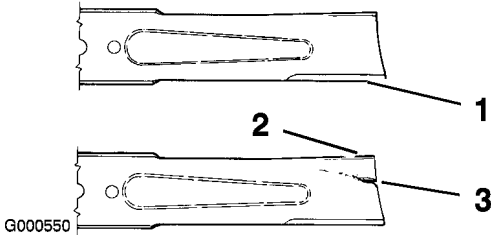

Figure 35
1. Inspect the cutting edges (Figure 35). If the edges are not sharp or have nicks, remove and
- Inspect the blades, especially the curved area (Figure 35). If you notice any damage, wear, or a slot forming in this area (item 3 in Figure 35), immediately install a new blade.